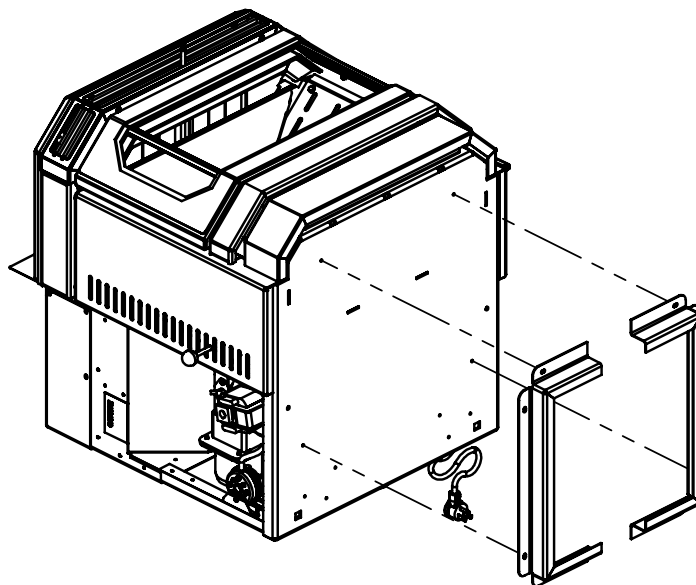

Figure 14: Installing pedestal onto unit.
5. Secure the pedestal to the unit using the four screws removed in step 4. See figure 14.